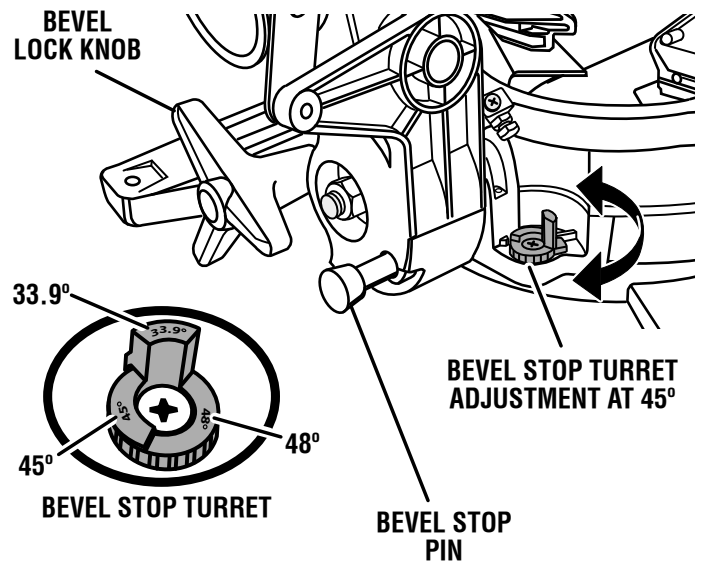

Fig. 27
- **NOTE:** Use the bevel stop turret to locate 33.9°, 45°, and 48° bevel angles. See Figure 27.